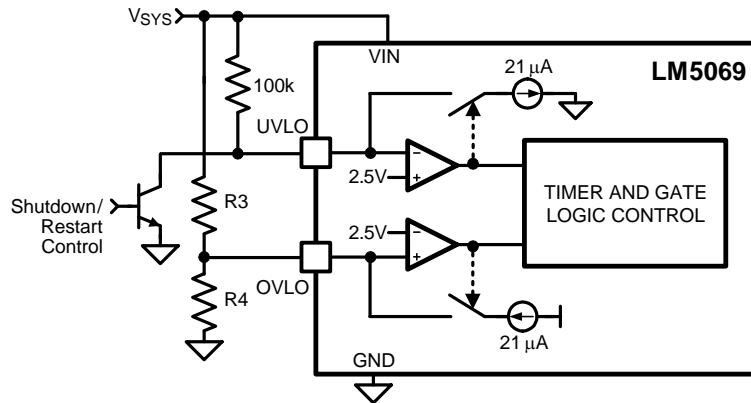

Figure 16. UVLO = POREN with Shutdown/Restart Control
**Option C:** The minimum UVLO level is obtained by connecting the UVLO pin to VIN as shown in Figure 16. Q1 is switched on when the VIN voltage reaches the POREN threshold ( $\approx 8.4V$ ). An external transistor can be connected to UVLO to provide remote shutdown control, and to restart the LM5069-1 after a fault detection. The OVLO thresholds are set using R3, R4. Their values are calculated using the procedure in Option B.